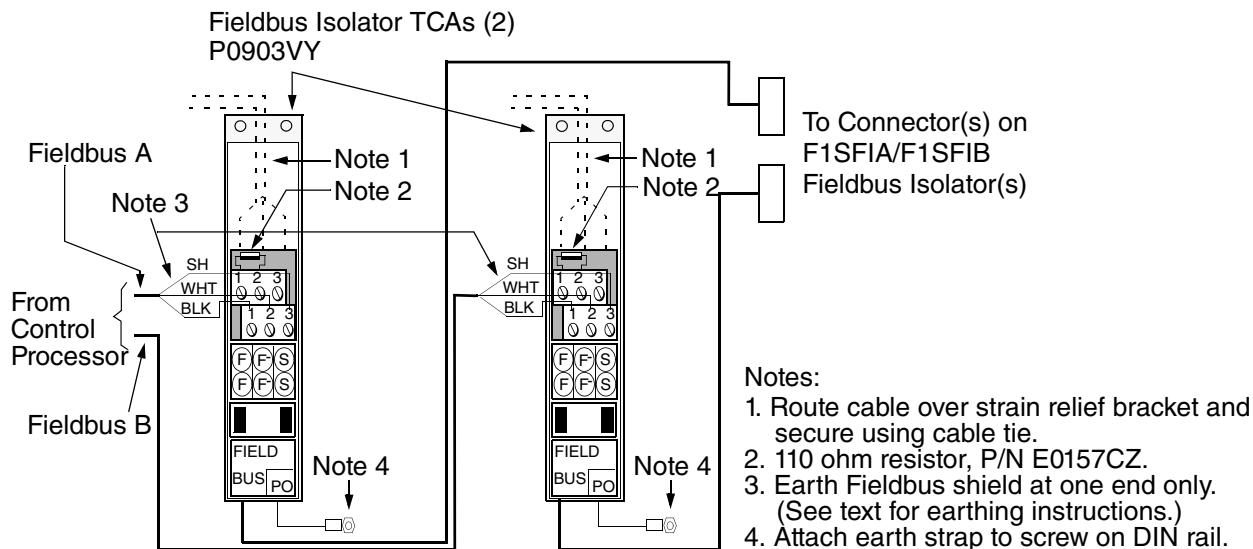

Figure 4-25. Fieldbus Cabling, DCS Fieldbus Module Subsystem
3. Connect the Fieldbus A and B cables to the F1SFIA or F1SFIB Fieldbus Isolator TCAs, as shown in Figure 4-25.